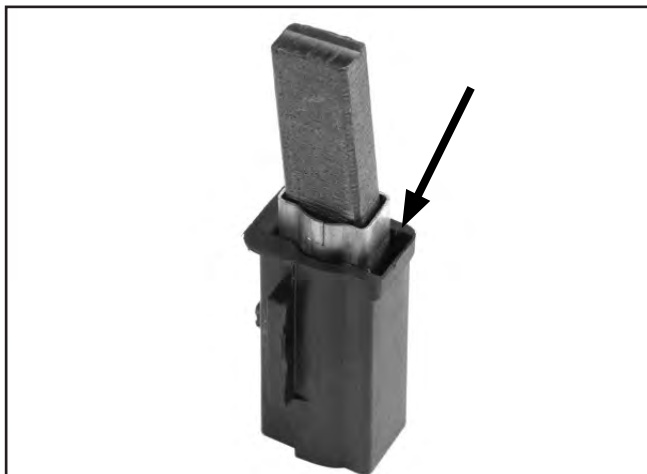

Figure 35. Brush power lead location.
10. Insert power wire spade terminal into brush assembly between brass sleeve and housing (see **Figure 35**).